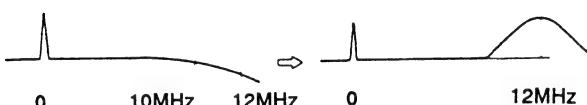

Fig. 3-2
2. Adjust output waveform peak to 12MHz with CV102 of the BA3 board as shown in Fig. 3-2.